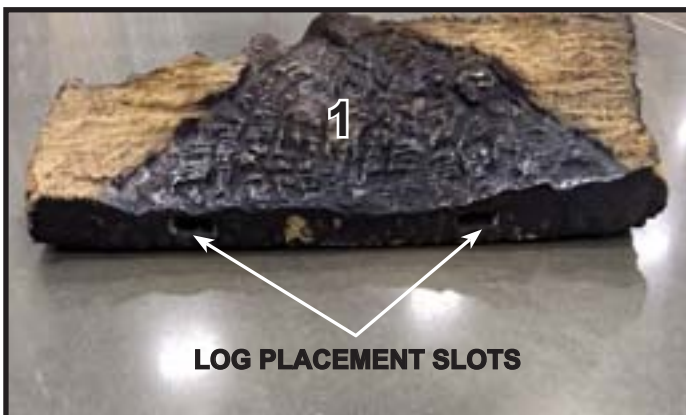
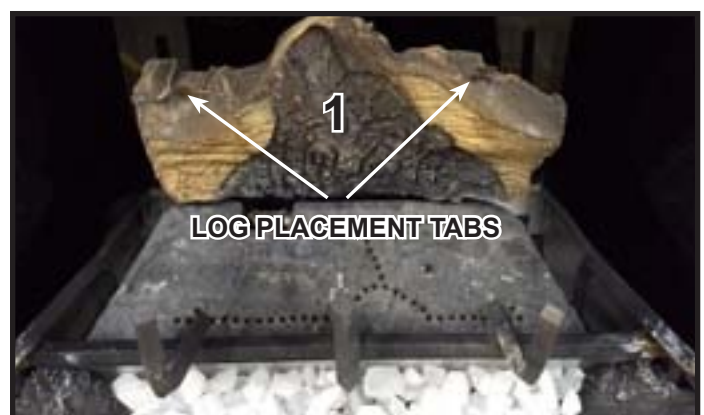

Figure 5
Figure 6
**CAUTION:** Logs are fragile, handle with care. **Log #1 (SRV2164-701):** Locate log placement tabs on the pilot cover. Bend tabs upward as shown in Figure 3. Locate the log placements slots on the bottom of Log #1 (see Figure 5). Mate the slots located on the bottom of Log #1 with the log placement tabs on the pilot cover. Log #1 is properly installed when it sits squarely and completely on pilot cover with tabs engaged (see Figure 6).
Figure 6 shows the log placement tabs located on the top of Log #1. The tabs will be mated with the slots located on the bottom of Log #2 and Log #3 (see Figure 7). Log #2 and Log #3 also have grooves that allow the logs to be seated properly on the grate (see Figure 7). Hold Log #1 upright while placing Log #2.